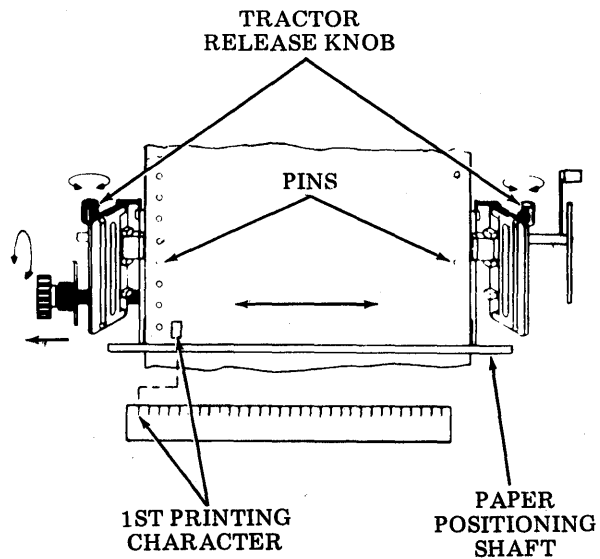

Fig. 54—Left Tractor Positioning
- (e) Set the left tractor for the left margin (Fig. 54). Note that the left tractor can be placed in position one through seven.
- (1) Loosen the left tractor release knob and slide the tractor to the desired left margin position using the scale on the printer as reference.